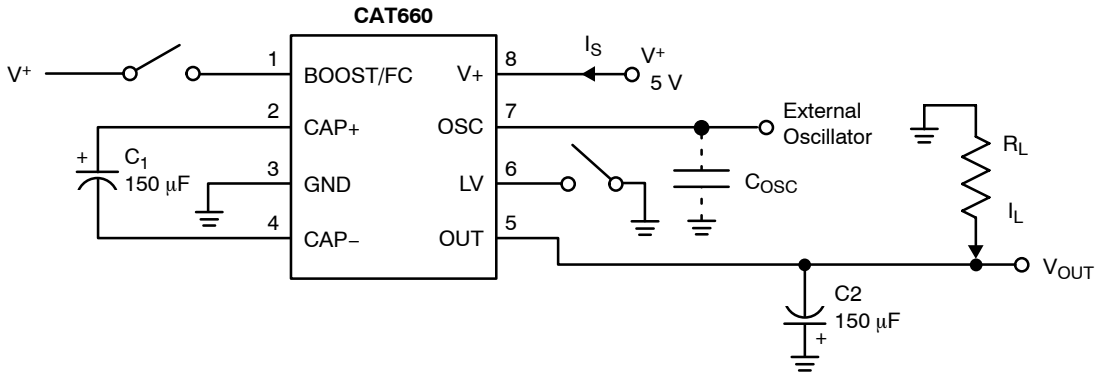

Figure 3. Test Circuit
Table 3. ELECTRICAL CHARACTERISTICS (V+ = 5 V, C1 = C2 = 150 μ F, Boost/FC = Open, C_{OSC} = 0 pF, inverter mode with test circuit as shown in Figure 3 unless otherwise noted. Temperature is over operating ambient temperature range unless otherwise noted.)
- In Figure 3, test circuit capacitors C1 and C2 are 150 μ F and have 0.2 Ω maximum ESR. Higher ESR levels may reduce efficiency and output voltage.
(Typical characteristic curves are generated using the test circuit in Figure 3. Inverter test conditions are: $V_+ = 5\text{ V}$, $LV = \text{GND}$, $\text{BOOST/FC} = \text{Open}$ and $T_A = 25^\circ\text{C}$ unless otherwise indicated. Note that the charge-pump frequency is one-half the oscillator frequency.)